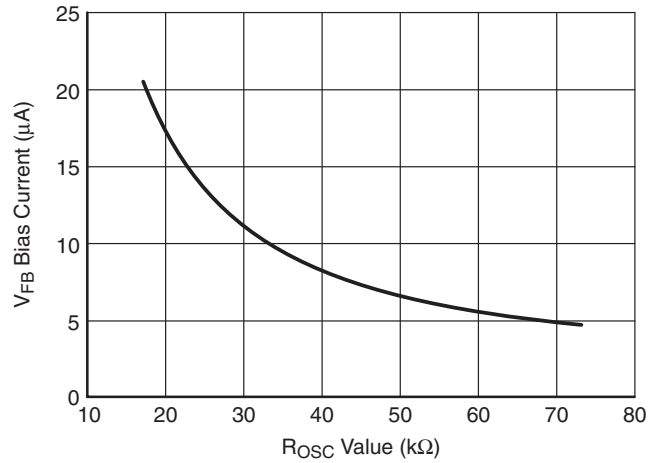

Figure 4. V_{FB} Bias Current vs. R_{OSC} Value
- The V_{FB} Bias Current changes with the value of R_{OSC} per Figure 4.